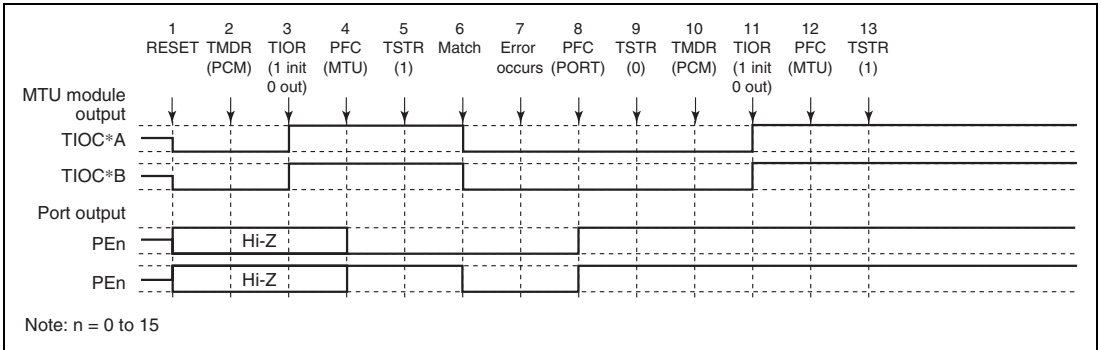

Figure 8.103 Error Occurrence in Phase Counting Mode, Recovery in Phase Counting Mode
(20) Operation when Error Occurs during Phase Counting Mode Operation, and Operation is Restarted in Phase Counting Mode: Figure 8.103 shows an explanatory diagram of the case where an error occurs in phase counting mode and operation is restarted in phase counting mode after re-setting.